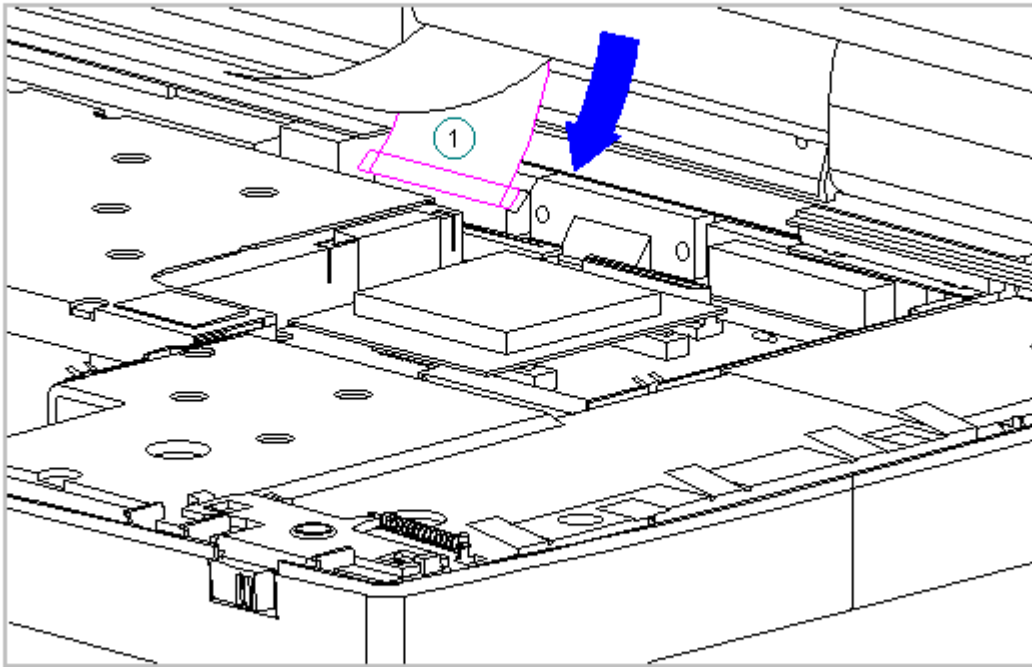

Figure 3-115. Connecting the Display Ground Cable (Models 400 and 410)
9. Connect the display ground cable [1] from the LIF clip above the serial port connector (Figure 3-115).